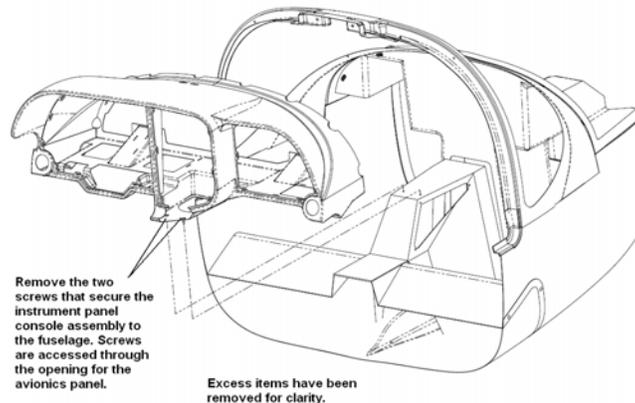

Figure 53-16 Location of the Two Screws that Secure the Instrument Panel Console to the Center Console
4. Install the two screws that hold the instrument panel console assembly to the center console. See Figure 53-16 for the location of the two screws.